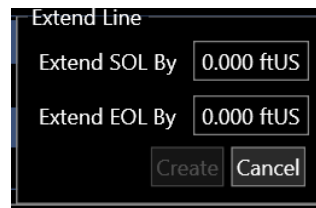

FIGURE 10-11 CONFIGURE LINE EXTENSION
- Click the Extend Button to bring up the extend line popup, as shown in Figure 10-11